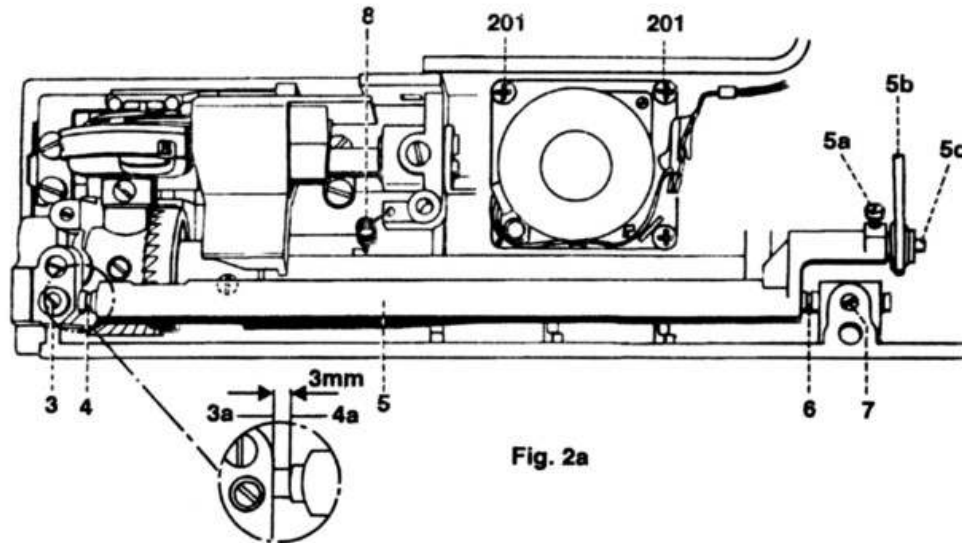

Fig. 2a
**Requirement:** The clearance between driving-shaft bush 4a and left housing edge 3a must be 3.0 mm (fig. 2a).
- Loosen screw 5a (fig. 2a).
- Re-position driving shaft 5 together with the two cylindrical pins 4 and 6 sideways without play until there is a clearance of 3.0 mm at the left side, as described in "Requirement" (fig. 2a).
- Connect the two springs 8 and 14 (fig. 2a and 2b).
- Tighten the three Philips screws 201 a little (fig. 2a).